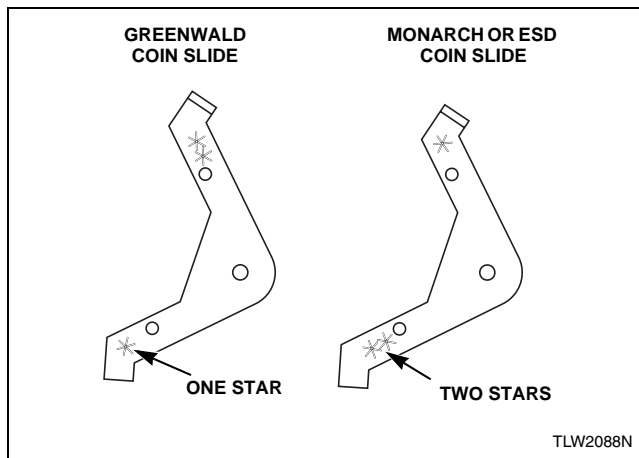

Figure 35
2. If installing a Greenwald coin slide, position extension lever (to be installed on extension bracket) with arm that has one star facing down. Refer to *Figure 35*.
3. If installing a Monarch or ESD coin slide, position lever with arm that has two stars facing down. Refer to *Figure 35*.